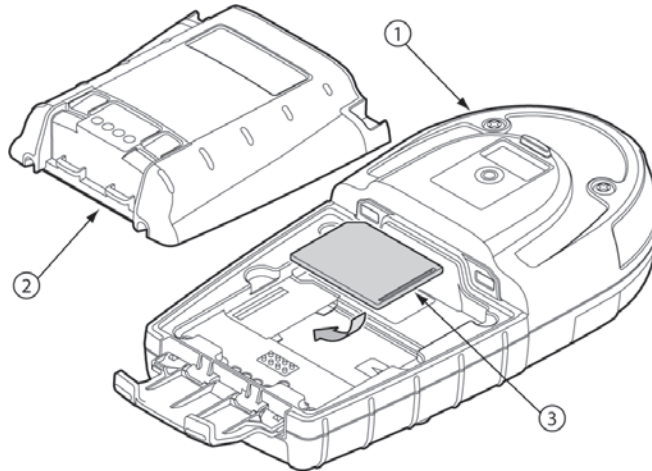

Figure 10. Installing and Removing the MMC Card
2. Release the latch and remove the battery pack. If required, refer to Figure 10.
1. Deactivate the detector and remove the MMC/SD card (refer to Figure 10).